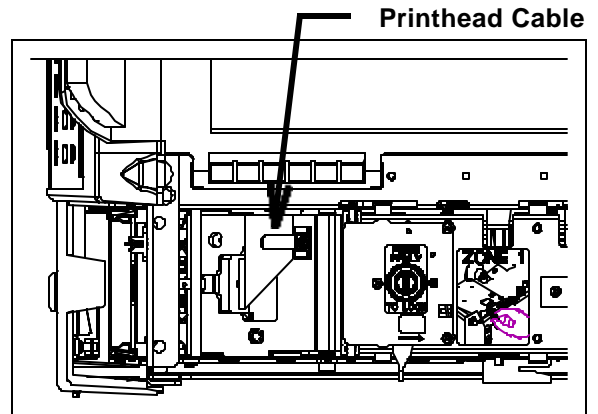

Figure 1
5. Disconnect the printhead cable from the printhead (Figure 1).